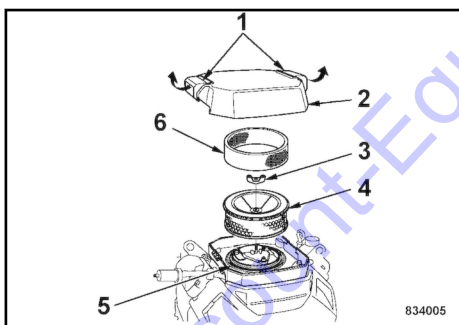

Fig. 82
Place the foam rubber element (6) ↪ Fig. 82 on the paper element (4).